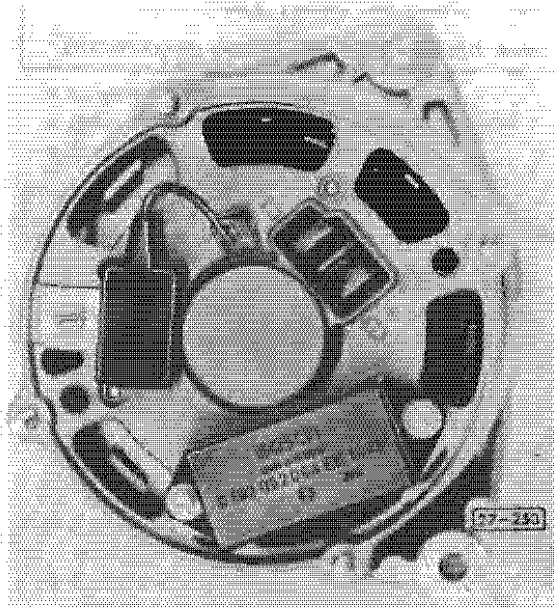

Fig. 1 Suppression condenser, connecting
- if voltage regulator is replaced, suppressor condenser (Fig. 1) (if not already installed) must be added.